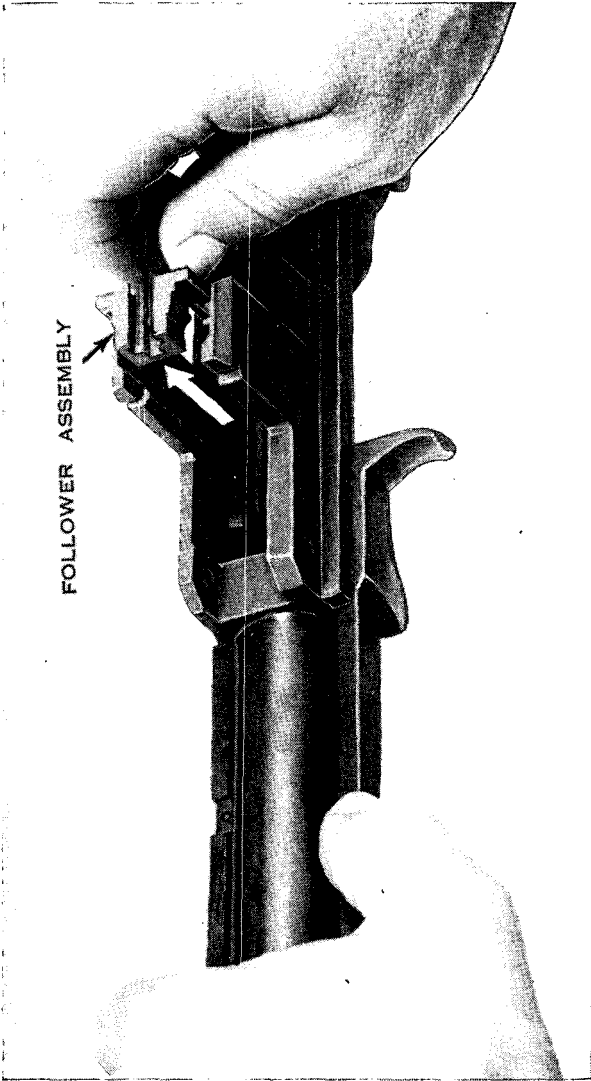

Figure 11. Removing the follower assembly.
d. Reach down into the receiver and lift out the follower assembly (fig. 11). Do not separate the slide from the follower.